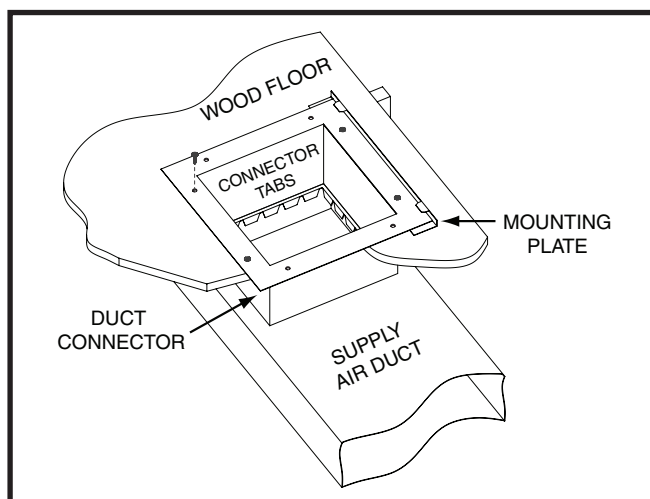

Figure 8. Standard Duct Connector Installed
Duct connectors are recommended for heated air distribution in under-the-floor duct systems. With this system, Appliances may be installed on combustible flooring without a separate sub-base. The Appliance rear mounting plate (Figure 8 (page 8)) supplied with the duct connectors is recommended for use with this type of installation.
2. Mark the cut-out area on the supply air duct by tracing around the connector tabs of the duct connector. See Figure 8 (page 8).
5. Install the optional mounting plate (Figure 8) under the back side of the duct connector. Align the screw holes in both components.